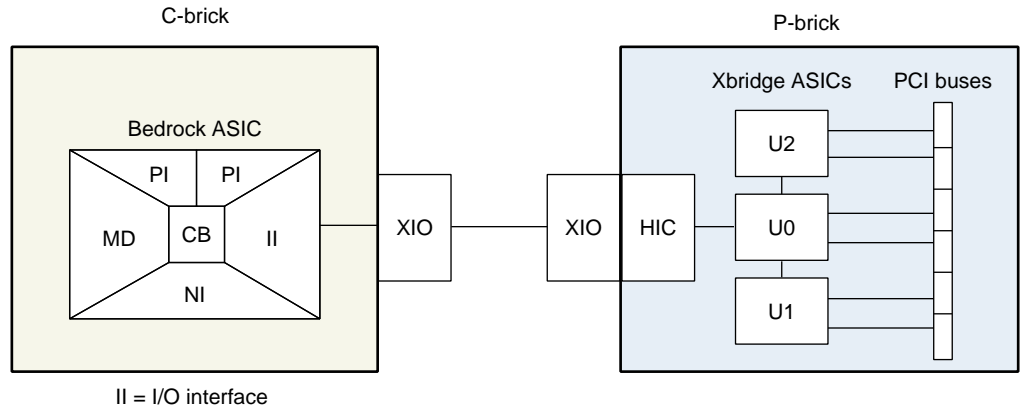
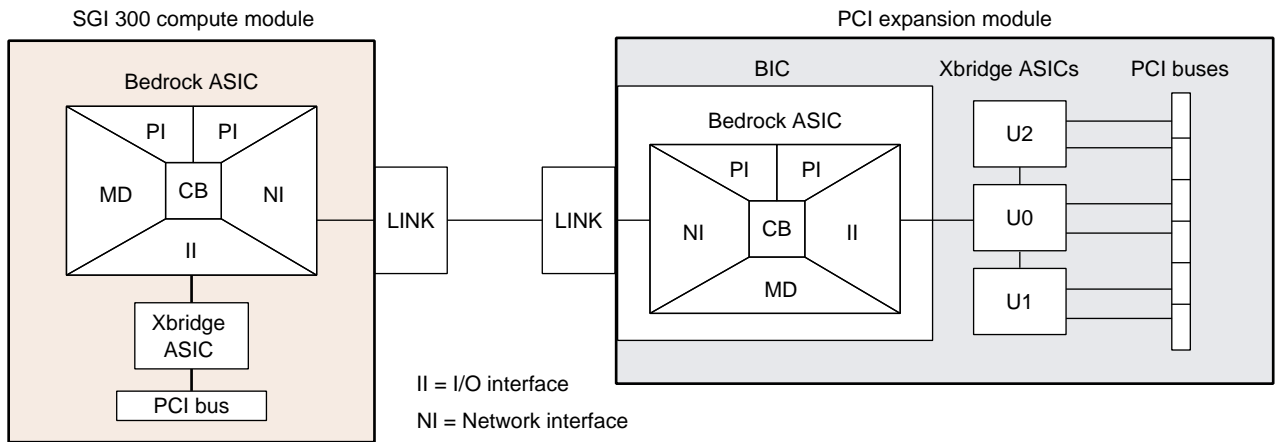

Figure 3-3 P-Brick Block Diagram
Figure 3-4 PCI Expansion Module Block Diagram
The SGI 300 compute module cannot connect to a P-brick because the P-brick requires a connection to the I/O interface (II) of a Bedrock ASIC (see Figure 3-3). The I/O interface of the SGI 300 compute module's Bedrock ASIC connects to an internal Xbridge ASIC (see Figure 3-4).
In order to expand the I/O capabilities of the SGI 300 compute module, the network interface (NI) of the SGI 300 compute module's Bedrock ASIC is used (see Figure 3-4). This interface must connect to another NI port; therefore, it must connect to a device that has a Bedrock ASIC. The PCI expansion module has a Bedrock interface card (BIC) that contains a Bedrock ASIC. (The P-brick does not contain a Bedrock ASIC.)